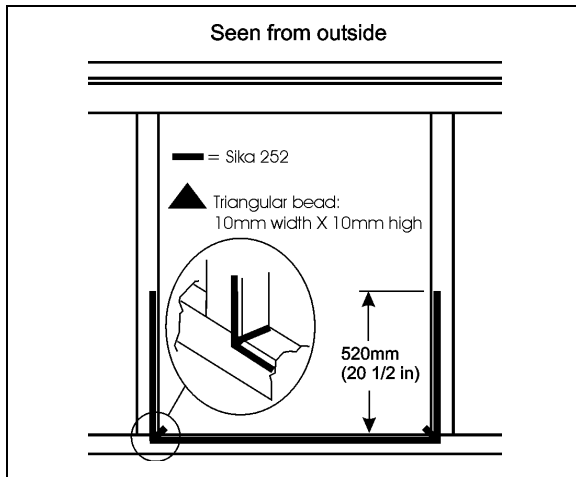

FIGURE 70: AWNING WINDOW – SIKa 252 APPLICATION
7. Apply Sika 252 as per FIGURE 70 (triangular bead: 10mm width X 10mm high) [10mm≈3/8"];;